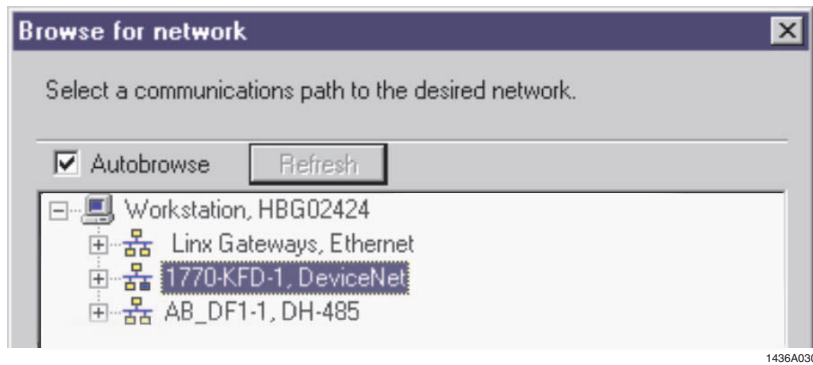

Figure 3-3 RSNetWorx™ Browse for network window
1. From the RSNetWorx™ menu bar, select "Network" then "Online". Form the "Online" window the appropriate interface tool driver can be selected. Figure 3-3.
1. From the RSNetWorx™ menu bar, select "Network" then choose "Online". From the "Online" window (refer to Figure 3-3), select the appropriate interface tool driver.